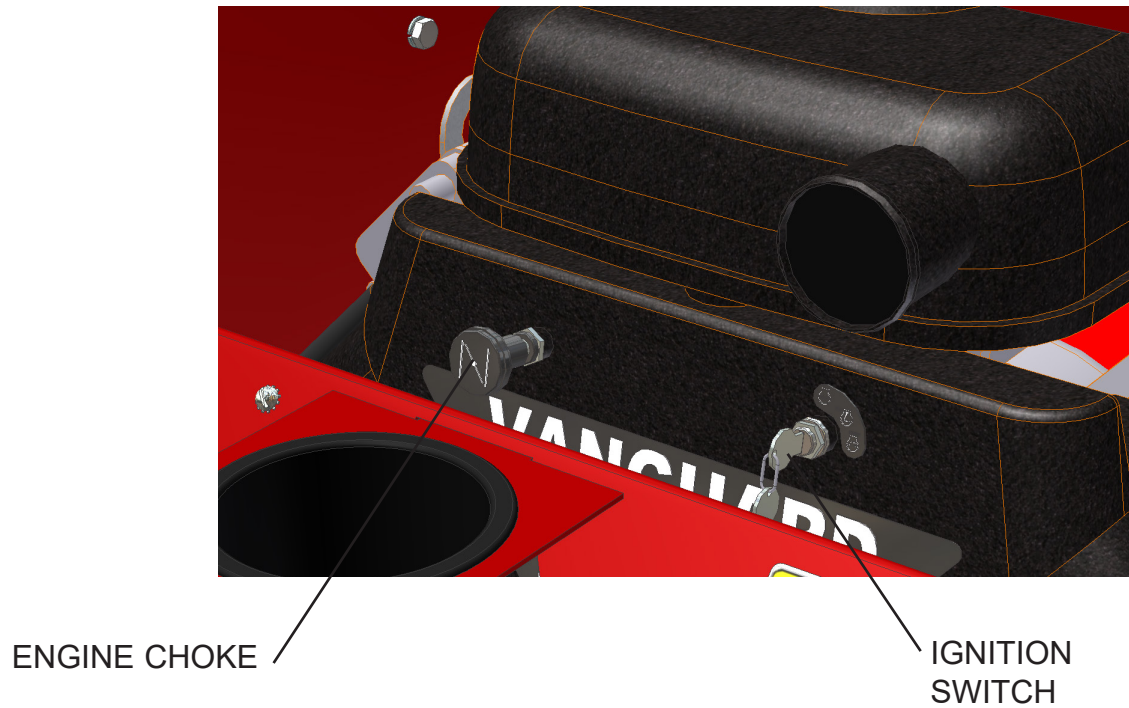
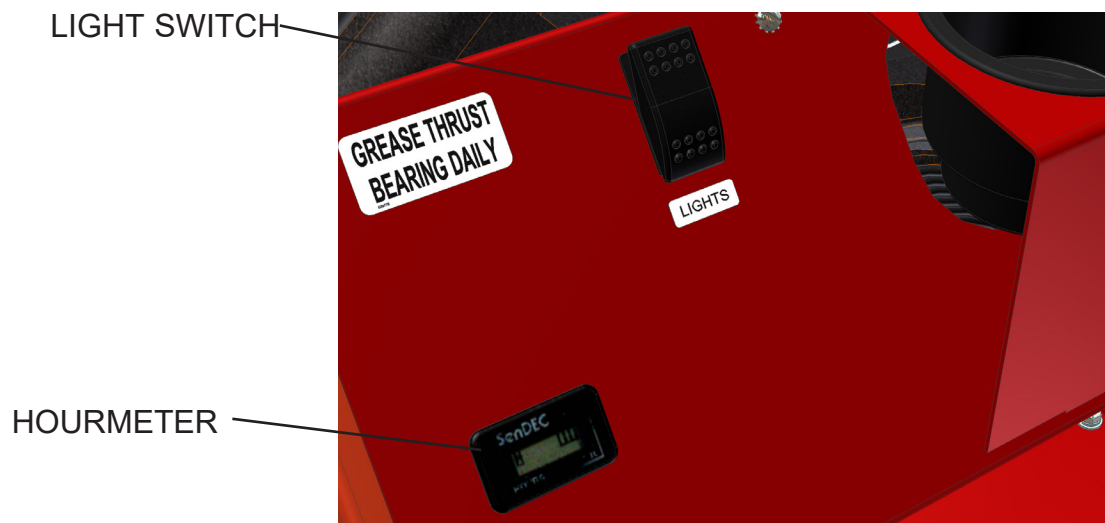

FIGURE 2.2.1
FIGURE 2.2.2
Before starting riding trowel, refer to Figure 2.2.1 and Figure 2.2.2 for location and identification of operational and visual controls pertaining to the operation of the riding trowel.
- 2) If engine is cold, pull out the choke lever located in the control zone (refer to Figure 2.2.1). Press down on throttle pedal (located by the operator's right foot) one to two times.